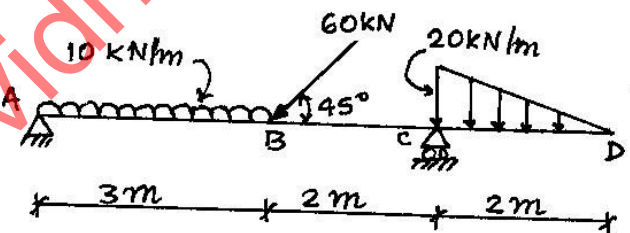

FIG 6. Q 3 (b) OR
- (b) Calculate reactions at support due to applied load on the beam as shown in **fig. 6.** **05**